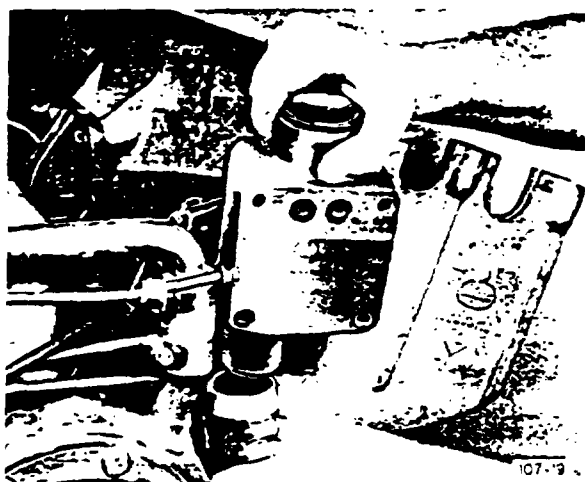

Figure 2-381. Installing Thermostat Housing
2. Install the thermostat housing. See Figure 2-381.